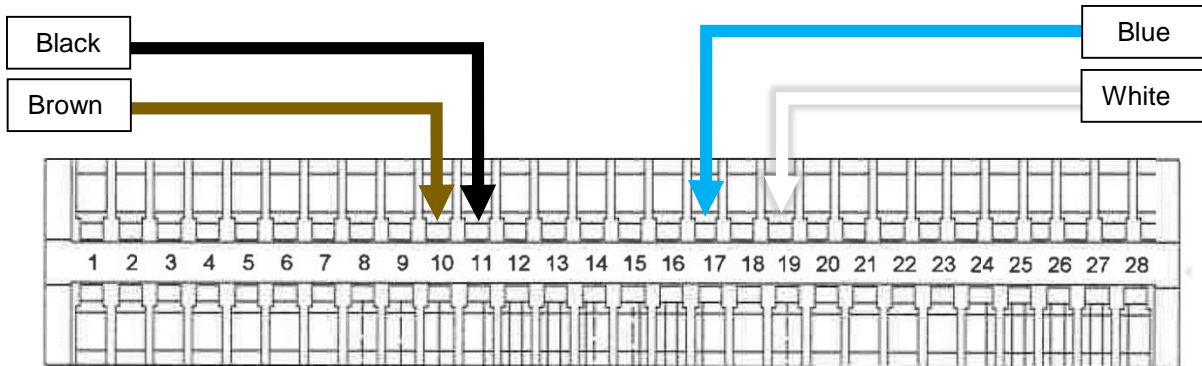

Figure PH018-11 – Terminal Block Wiring
4. Plug the wires into the terminal block as shown in Figure PH018-11.